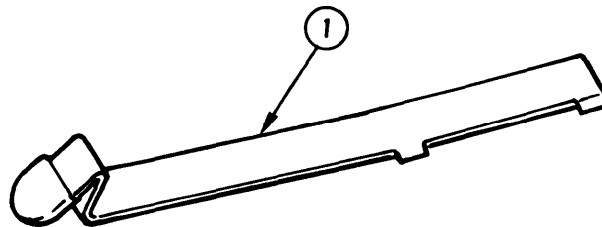

Figure 1. Ammunition Flat Spring
b. *Contents of MWO Kit(s): See table 5 and figure 1.*